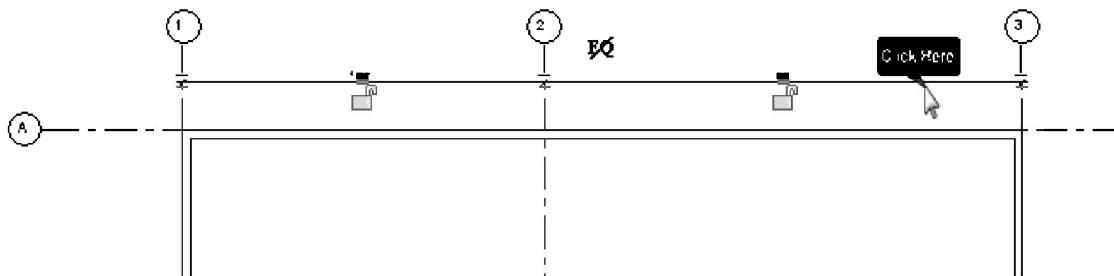

FIGURE 2-1.9 Adding dimensions
25. Click in the location shown in Figure 2-1.9 to position the dimension line.